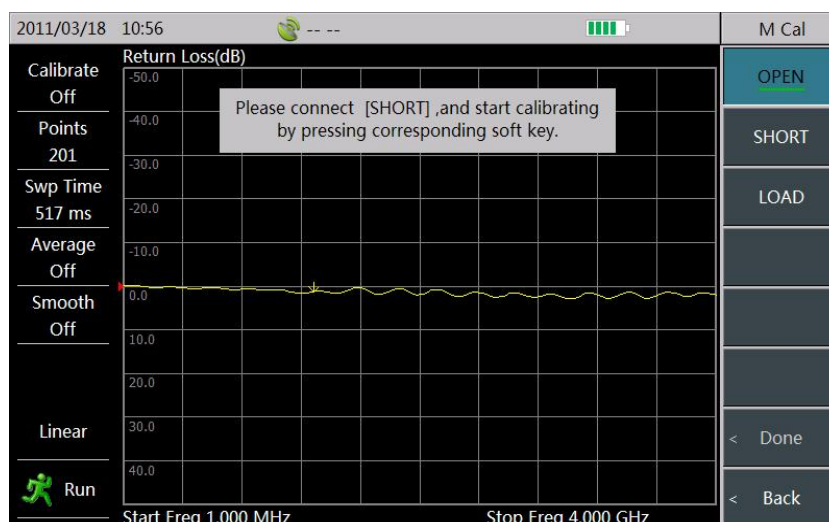

Figure 1-5 Short Circuit Calibration and Measurement
- Following by screen tips, connect the short circuit to the test port and select the [Short] menu. At this time, the screen will automatically prompt “[SHORT]Measuring.....”. When the [SHORT] menu becomes into [SHORT], it indicates the completion of the short circuit calibration, and then connect the calibration kit to calibrate other items according to screen tips. Figure 1-5 shows the short circuit is in the process of calibration and measurement.